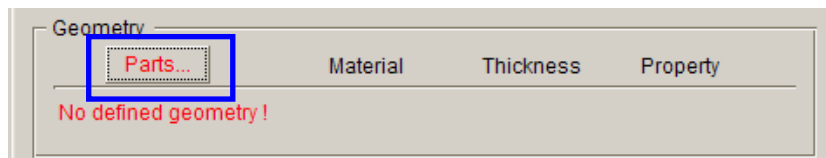

Figure 4.6 Define blank
2. Then, click **Parts...** button from **Geometry** field in blank definition interface. See Figure 4.6.